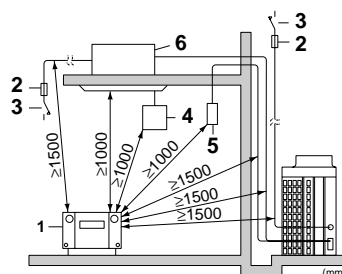

Fig. 2
2. Remove the fitting (yellow color) for loading as shown in the figure 2.